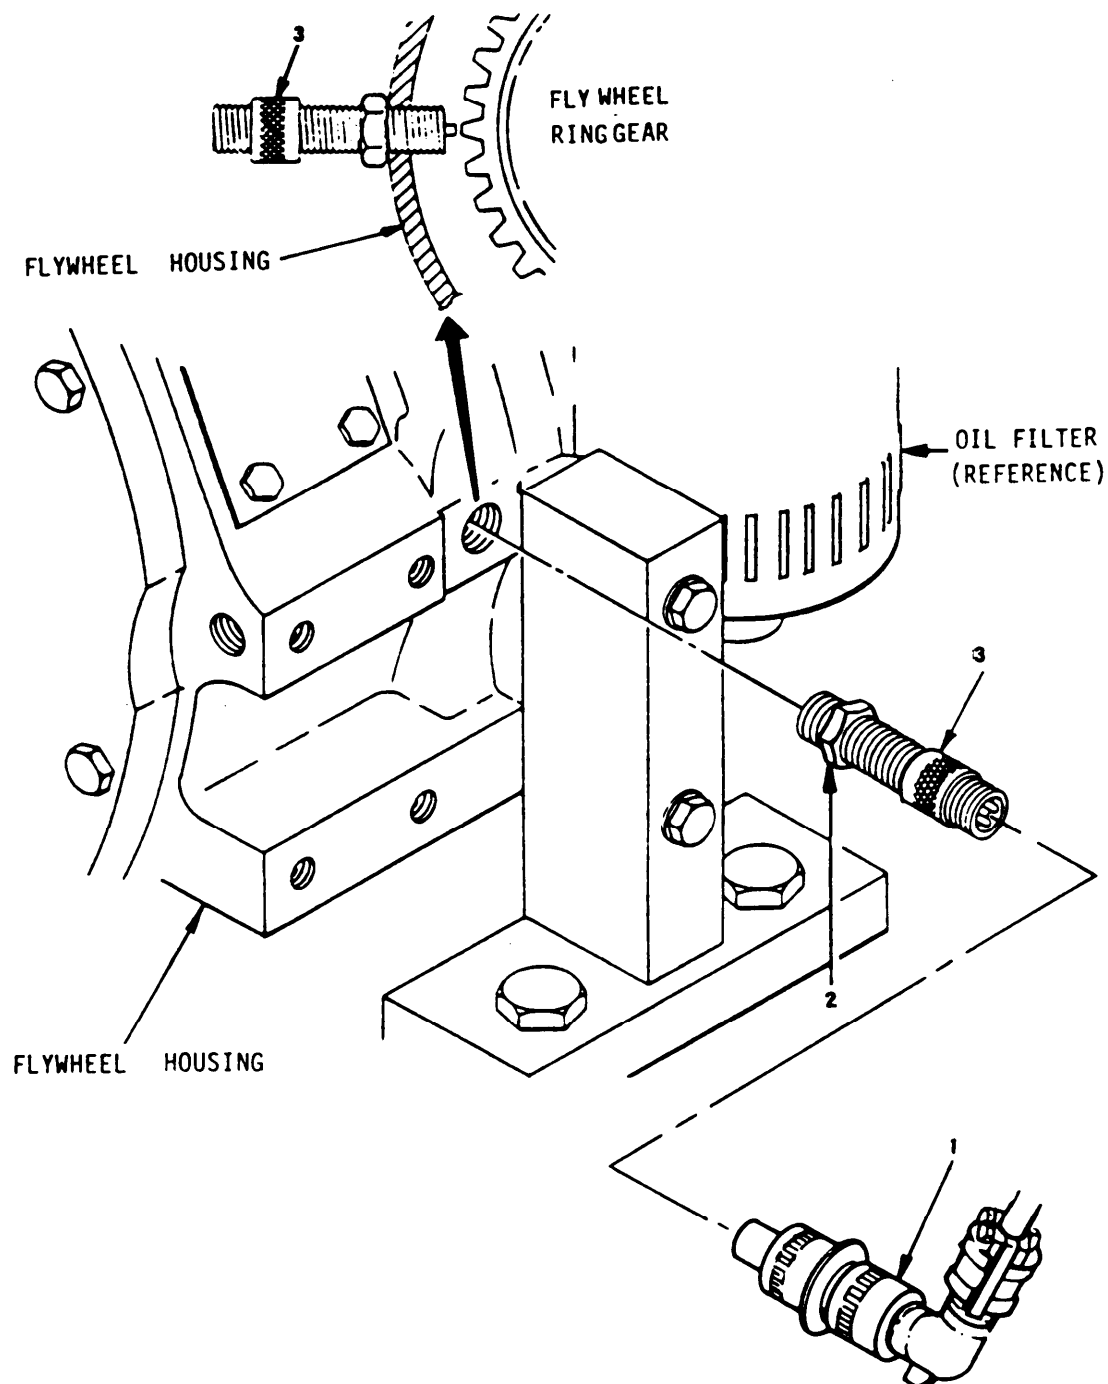

Figure 4-54. Magnetic Pickup Maintenance.
- a. Disconnect electrical connector (figure 4-54, 1).
- b. Loosen jam nut (2) and remove magnetic pickup (3).
- c. Gently turn the magnetic pickup (3) into the hole until it bottoms against the tooth.
- d. Back off the magnetic pickup (3) 1/4 turn, then firmly tighten jam nut (2).
- e. Connect electrical connector (1).